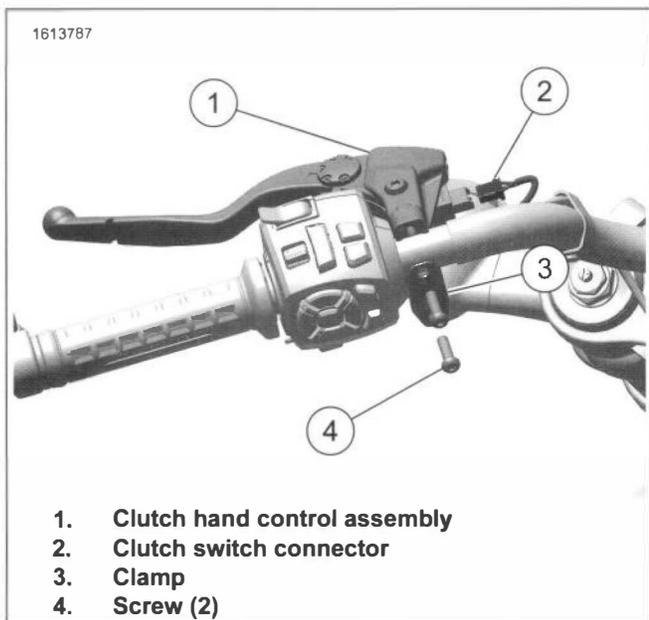

Figure 3-77. Clutch Hand Control
1. See Figure 3-77. Disconnect clutch switch connector.
- b. Note position of clutch hand control assembly (1).
- c. Remove screws (4).
- d. Remove clamp (3).
1. See Figure 3-77. Install clutch hand control assembly.
- a. Install clutch hand control assembly (1) on handlebar.
- b. Install clamp (3).
- c. Install screws (4).